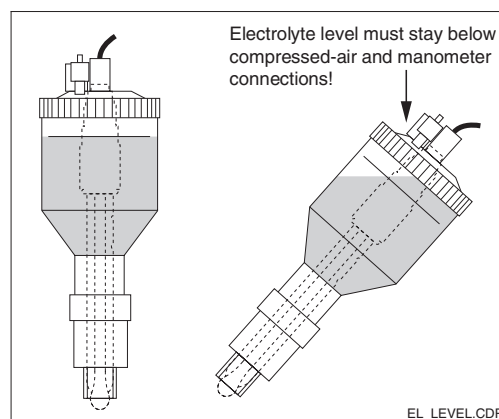

Fig. 3.8 Electrolyte filling level
- The compressed-air and manometer connections must not be flooded with electrolyte (see Fig. 3.8).